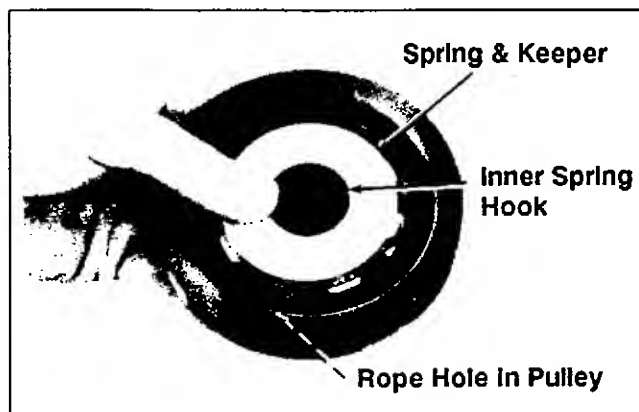

Figure 7-8. Position Of Spring And Keeper In Pulley.
8. Note the position of the spring and keeper assembly in the pulley. See Figure 7-8.
1. Make sure the spring is well-lubricated with grease. Place the spring and keeper assembly inside the pulley (with spring towards pulley). See Figure 7-8.